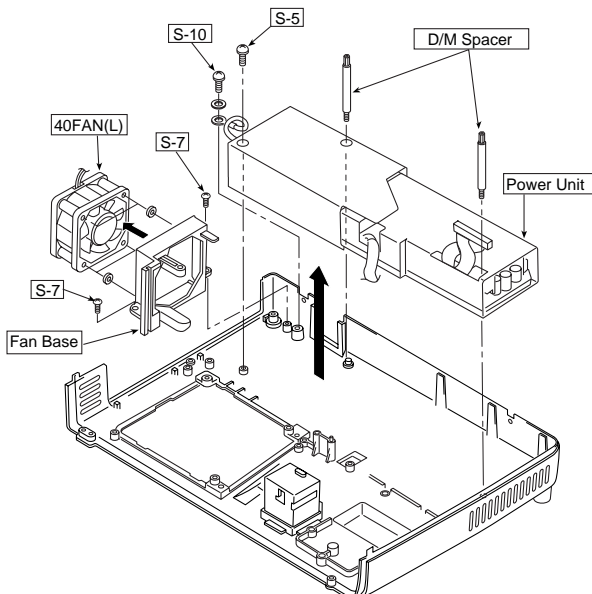

Fig. 16
15) Power unit (See Fig. 16.)
Remove the two screws (S-7) shown in Fig. 16, and detach the fan base from the cover.
Remove the screws (S-5 and S-10 one each) and the two D/M spacers shown in Fig. 16, and detach the power unit.